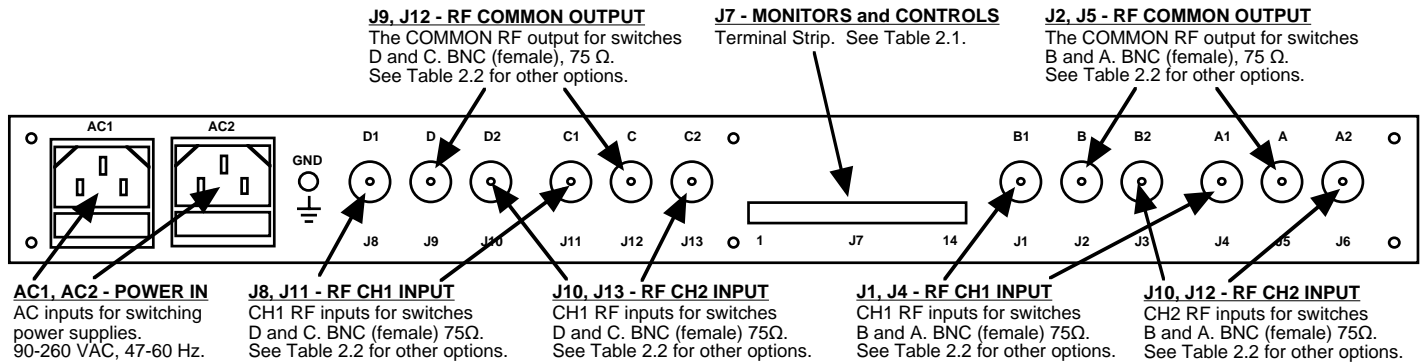

FIGURE 2.2 1582-70L2 RF Switch Rear Panel Inputs/Outputs
2.2 Input and Output Signals - Figure 2.2 shows the input and output connectors on the rear panel.
4. Connect to signals on the MONITORS AND CONTROLS connector, J7, as desired (see Figure 2.2, Table 2.1).